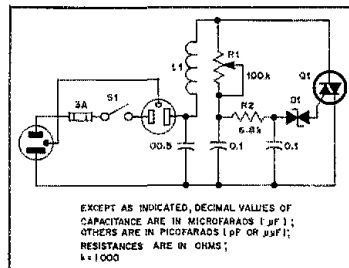

Fig. 6 — Schematic diagram of a light-dimmer circuit that can be built to control your soldering-iron temperature.
□ When my 30-W soldering element burned out, I pressed an extra 50-W element into service. As expected, it was too hot for most work. An incandescent-light dimmer worked well for controlling the working temperature of the tip. You can purchase a ready-made unit, or the circuit of Fig. 6 can be built.² The dimmer should be wired in an electrical box that has a receptacle to plug in the soldering iron. This would be ideal for the construction of a soldering station for the workbench. The unit of Fig. 6 could also be used as a variable-